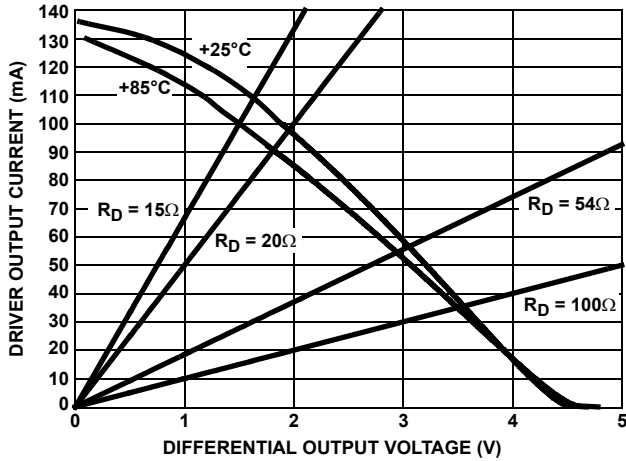

FIGURE 8. DRIVER OUTPUT CURRENT vs DIFFERENTIAL OUTPUT VOLTAGE
- See Figure 8 for more information, and for performance over-temperature.
Another advantage of the large V_{OD} is the ability to drive more than two bus terminations, which allows for utilizing the ISL3158AE in "star" and other multi-terminated, "non-standard" network topologies. Figure 8, details the transmitter's V_{OD} vs I_{OUT} characteristic, and includes load lines for six (20Ω) and eight (15Ω) 120Ω terminations. The figure shows that the driver typically delivers 1.65/1.5V into 6/8 terminations, even at the worst case temperature of $+85^\circ\text{C}$. The RS-485 standard requires a minimum 1.5V V_{OD} into two terminations, but the ISL3158AE delivers RS-485 voltage levels with 3x to 4x the number of terminations.